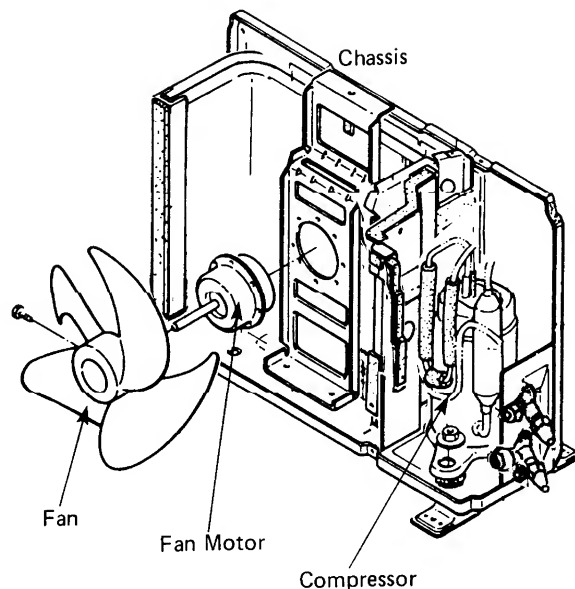

Fig. D-11
- 1) Remove the fan by removing the propeller fan fixing screw using a straight blade screwdriver. Refer to Fig. D-11.